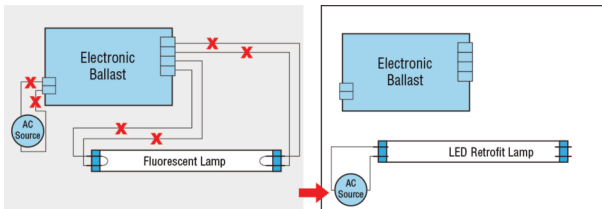

Fig:3 - Retrofit with One Lamp
- 8) Make sure all sockets are replaced and wired according to the appropriate wiring diagram. (Fig. 3, 4, 5, 6).